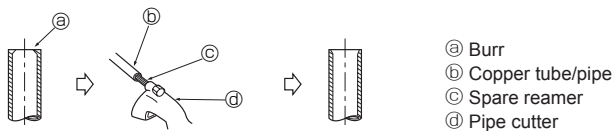

Fig. 4-4
4.2.2. Burrs removal (Fig. 4-4)